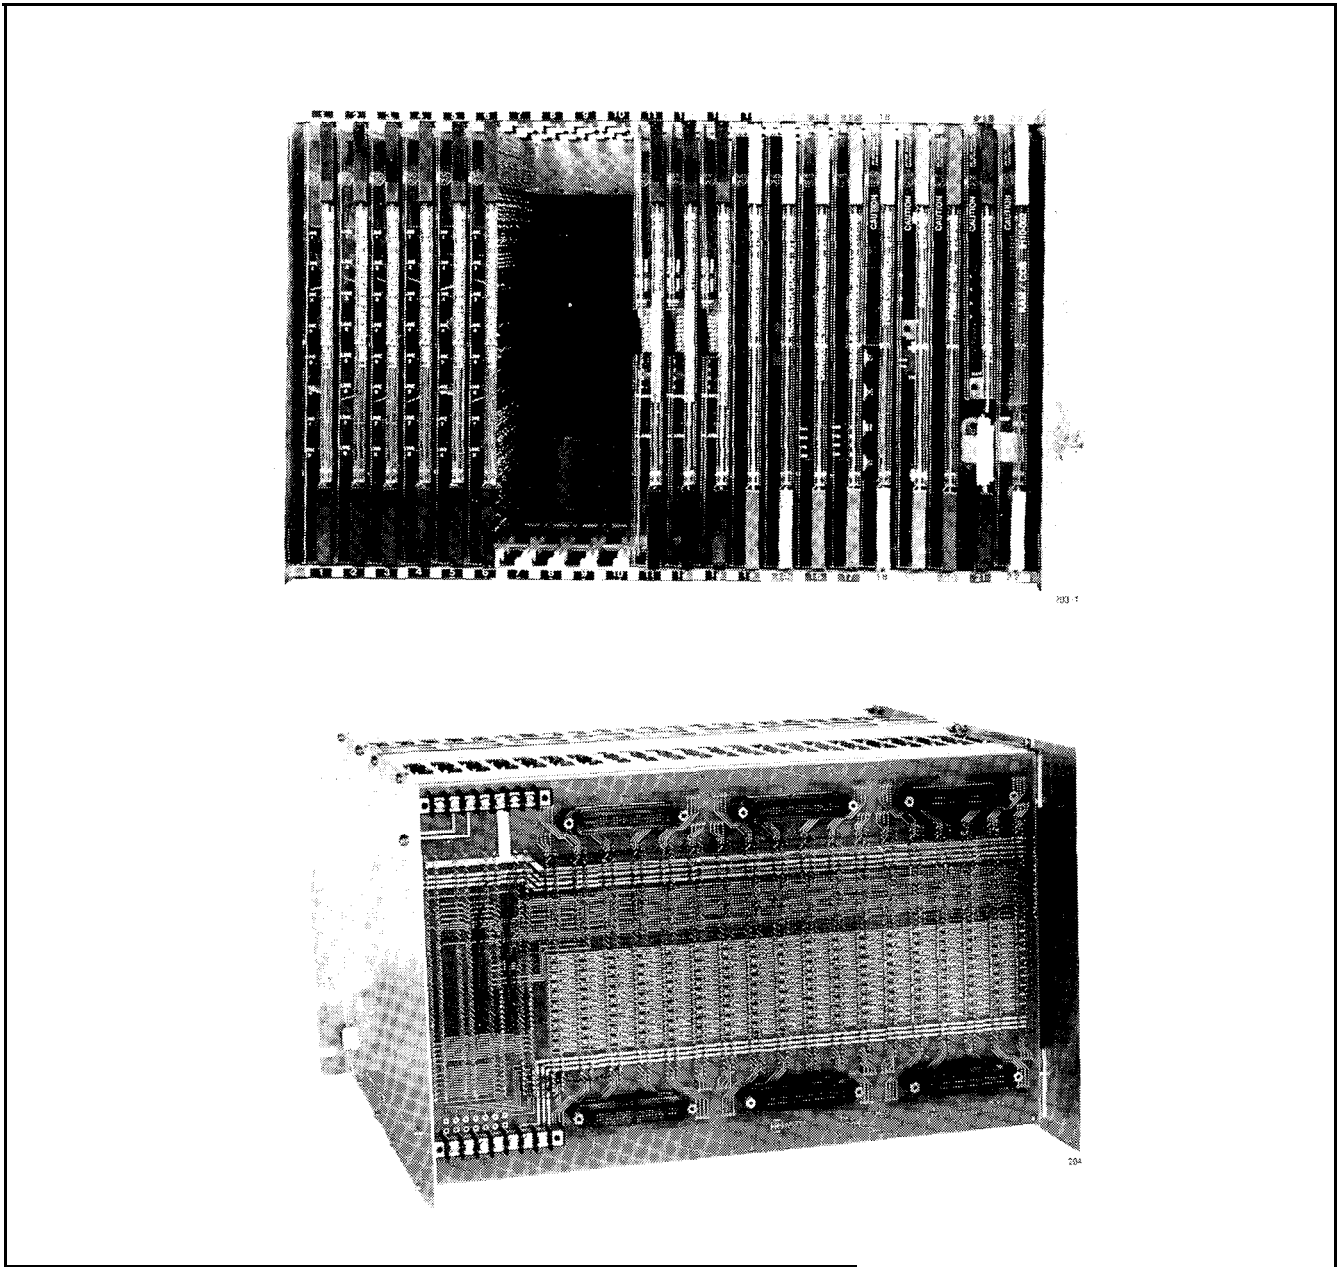

Fig. 2-4 Equipment Shelf
2.07 The equipment cabinet holds the maintenance panel, a maximum of two equipment shelves (see Fig. 2-4), the optional
2.09 Each equipment shelf (Fig. 2-4) holds up to 22 printed circuit cards which plug into the